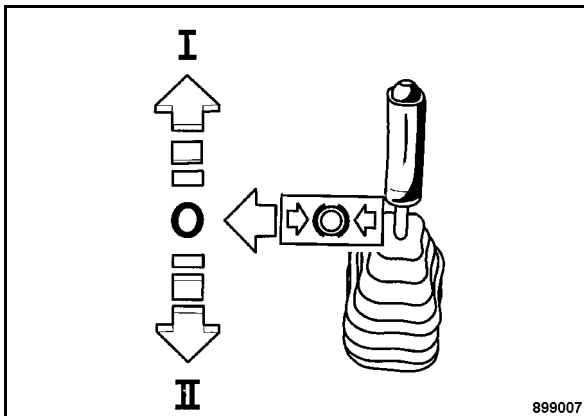

Fig. 36
- Unlock the travel lever (Fig. 36) by shifting it to the left out of braking position and move it slowly to the desired travel direction.